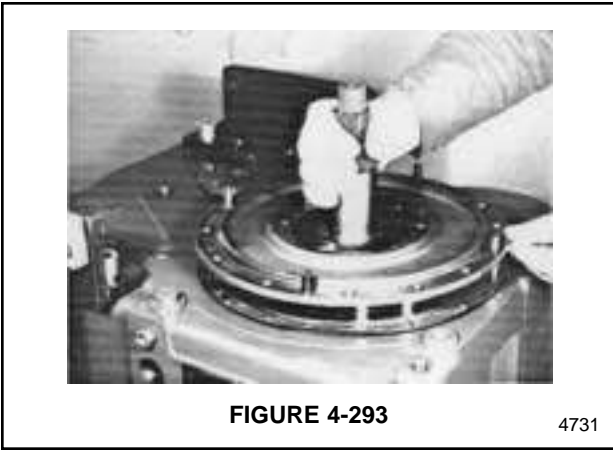

FIGURE 4-293
21. Install the gasket on the bore of the oil supply flange. Set the oil supply flange and pump assembly into the bore in the transmission. See Figure 4-293.